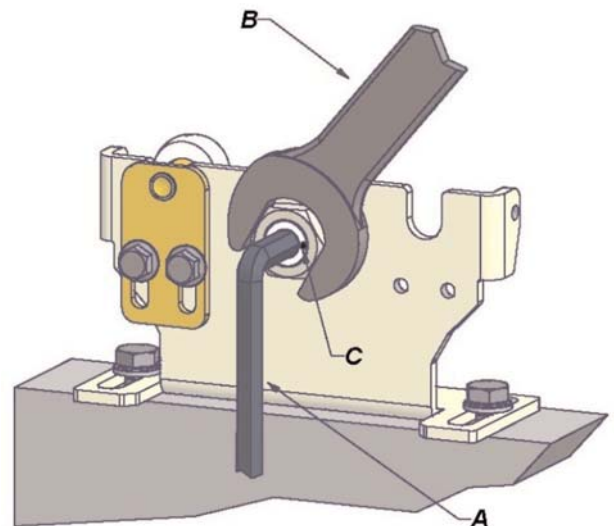

Fig. 19
- Insert a (long-handled) Allen wrench in the wheel eccentric part. **A Fig. 19**,loosen the nut using a long-handled 24 wrench part **B**.